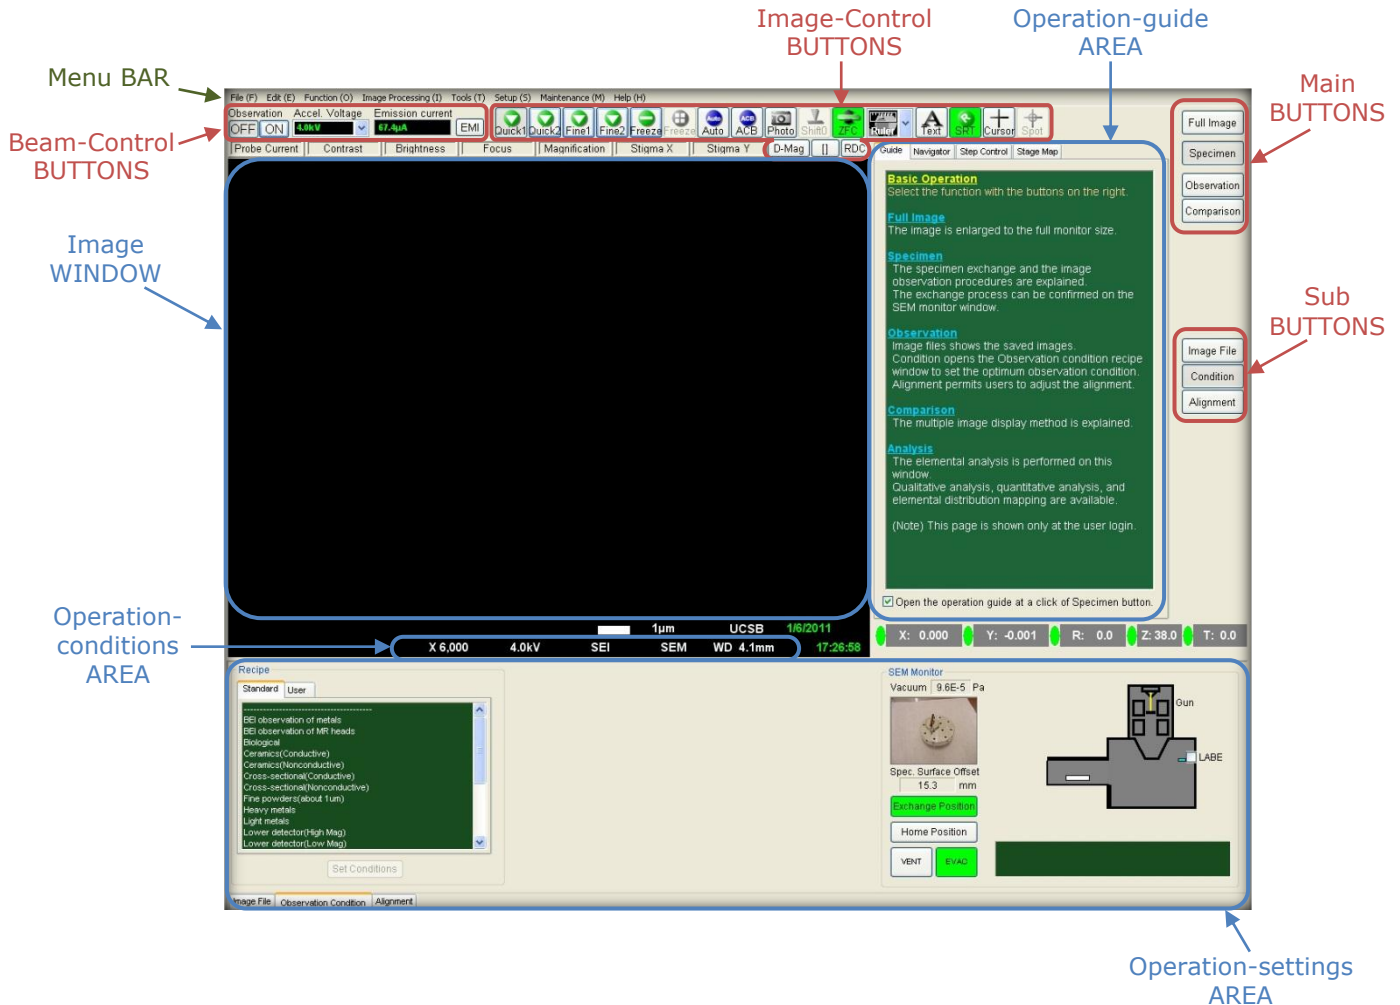

Fig. 1: Main Window layout for the 7600F SEM
- b. Click on the **PC-SEM** icon located on the desktop, and select your group's JEOL system username from the list and enter the password to open up the Main Window in its initial state (as shown in Fig. 1 below). This window displays status and control features for the SEM in many areas of the window.
Refer to the main window layout shown in Fig. 1 to determine the location of the various **BUTTONS** and **AREAS** referenced below.
ii. *X/Y/R - Step/Frame Move*: Select the Step Control tab in the Operation-Guide AREA of the main window, Fig.1.